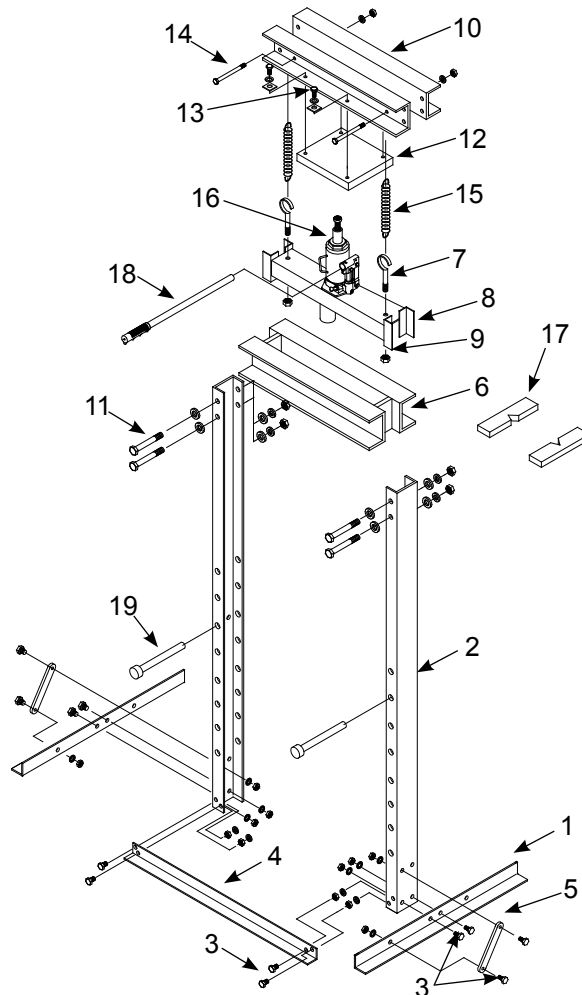

Figure 4 - Assembly Illustration for model 60200
**Model 60200:** (Refer to Figure 4)
1. Attach base legs (1) to upright channels (2) with bolts, lock washers and nuts (3). Hand tighten only.
2. Attach lower cross member (4) to upright channels (2) with bolts, lock washers and nuts (3).
3. Attach support links (5) to the base (1) and upright channels (2) with bolts, lock washers and nuts (3).
4. Carefully slide bed frame (6) down to lowest possible position between the upright channels (2).
5. Attach the screw hooks (7) to the jack bracket (8) with nuts (9). Leave nut untighten to provide easier spring attachment later.
6. Slide the jack bracket (8) down between upright channels (2) onto the bed frame (6).
7. Attach upper cross members (10) to upright channels (2) with bolts, flat washers, lock washers and nuts (11).
8. Attach head plate (12) to upper cross members (10) with bolts, lock washers and square washers (13).
9. Attach two bolts, lock washers and nuts (14) thru the upper cross member (10). Then attach one end of the springs (15) to the bolts (14) and the other end to the screw hooks (7) on the jack bracket.